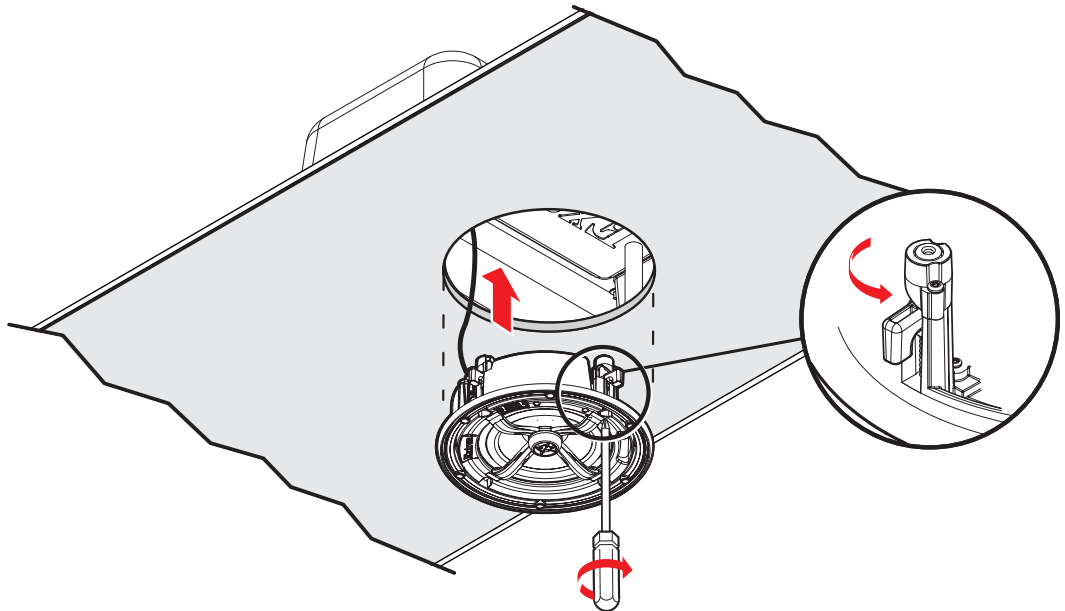

Figure 41. Mounting the Speaker to the CS 120P
8. **Mount the CS 26T** (see figure 41).